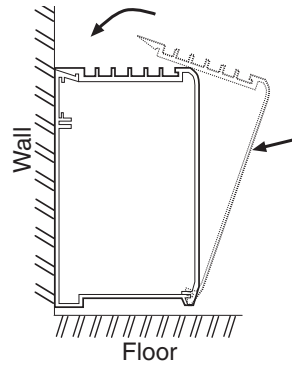

Fig. 4
17. Before energizing, make sure front cover is properly locked onto the back housing along the entire length of the heater, see Fig. 4. Do not operate heater without front cover installed.
- Replace front cover by latching the bottom front edge of the front cover over the bottom front edge of the back and pushing the cover straight back to latch the top rear edge of the back with the top rear edge of the front cover. See Fig. 4.
- Replace front covers following Step 10, Single Unit Installation (See Fig. 4.)